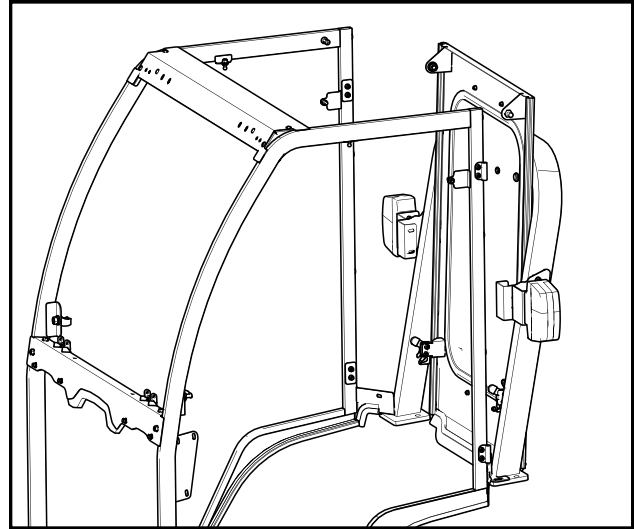

Fig. 9.1 (Rear Panel Installation)
9.1 Set the hard rear panel into position in front of the ROPS tubing and lean it backwards at the top so it rests in place temporarily. See Fig. 9.1